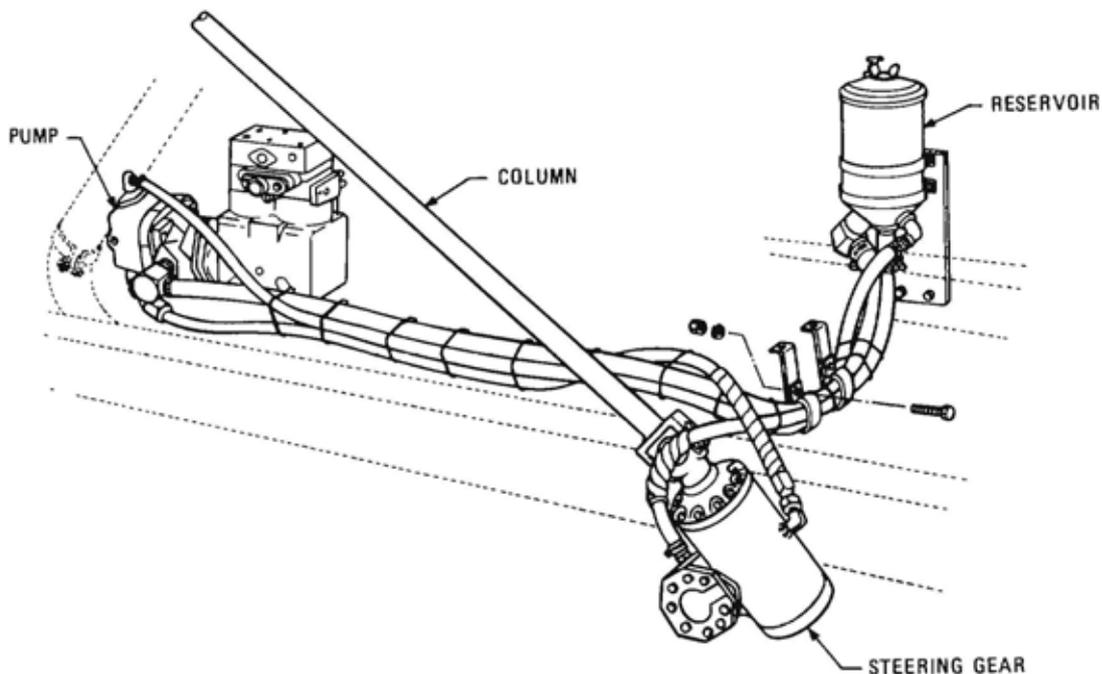

Figure 75 Power Steering System
**122.** The power steering system, (Figure 75) fitted to the vehicle is a Sheppard SGP49 (Model 592). The steering gear features an integral assembly, wherein the booster cylinder, control valve and mechanical steering gear are incorporated into a single unit. A Vickers V20 series pump, which is mounted directly on and driven by the air compressor output shaft, pumps oil from the oil reservoir to the steering gear unit.